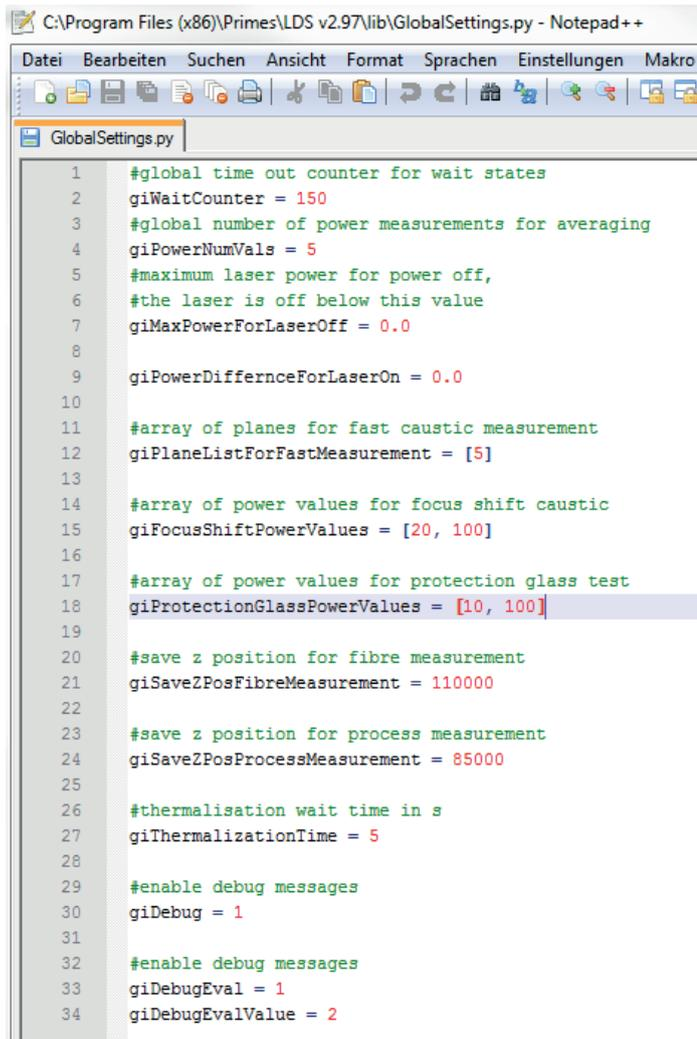

Fig. 19.28: Editing the file *GlobalSettings.py*
1. Open the file with an editor (e. g. Notepad++) as shown in Fig. 19.28.